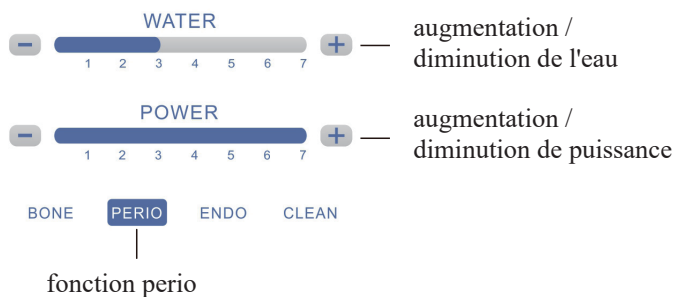

Figure 9
7.2.2 Fonction PERIO (figure 9)